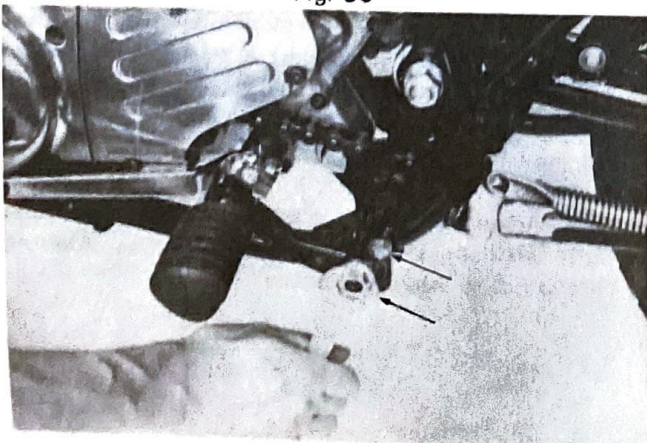

Fig. 31
22. Install the foot rests, both right and left. To install, secure them with special nuts, and then tighten the lock bolts. (Fig. 31)